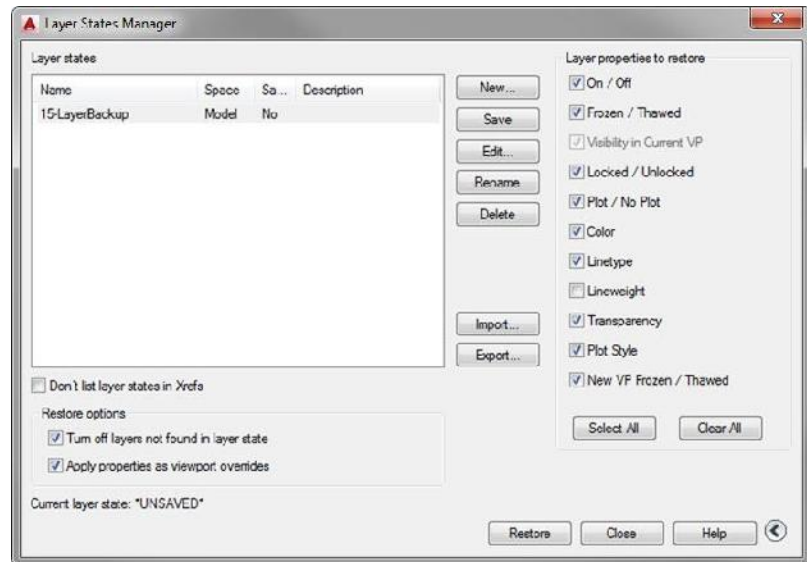

FIGURE 15.6: Restoring all but the Lineweight property from the 15-LayerBackup layer state
12. Uncheck the Lineweight check box, as shown in Figure 15.6, and then click the Restore button.